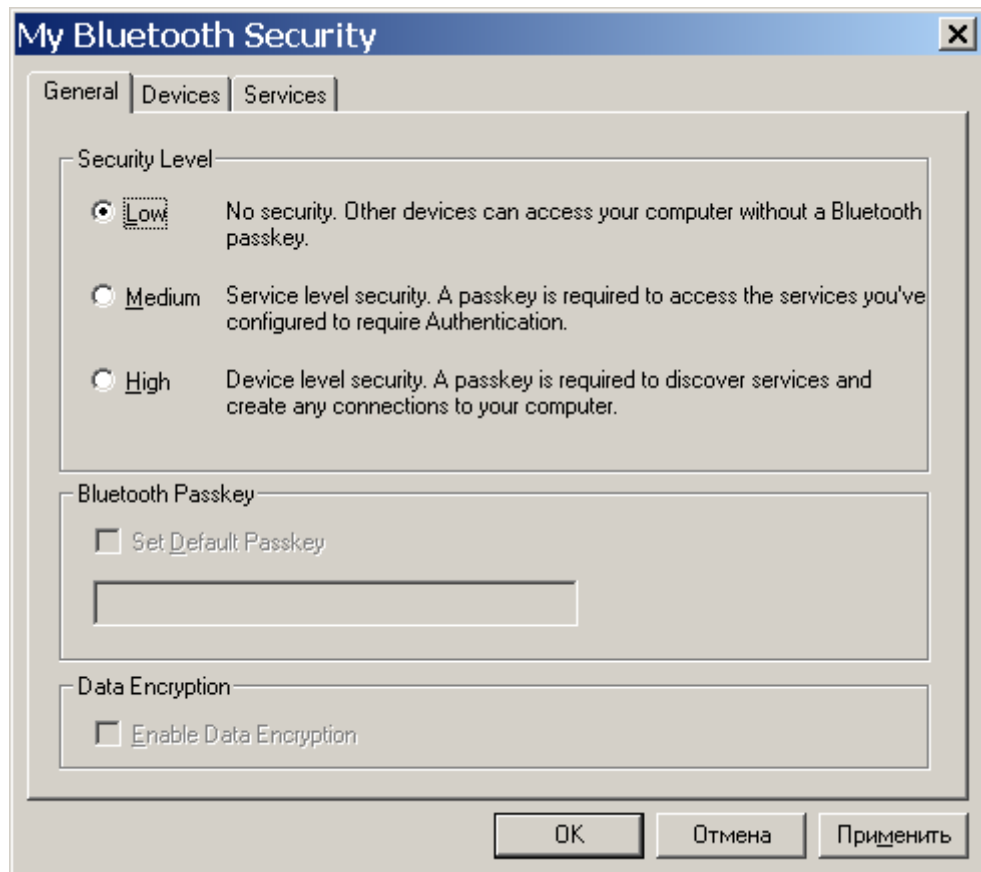

Figure 3 – “General” tab setup
- select **My Bluetooth->Security...** Set the **Low** radio button in the **Security level** component of the **General** tab (Figure 3);